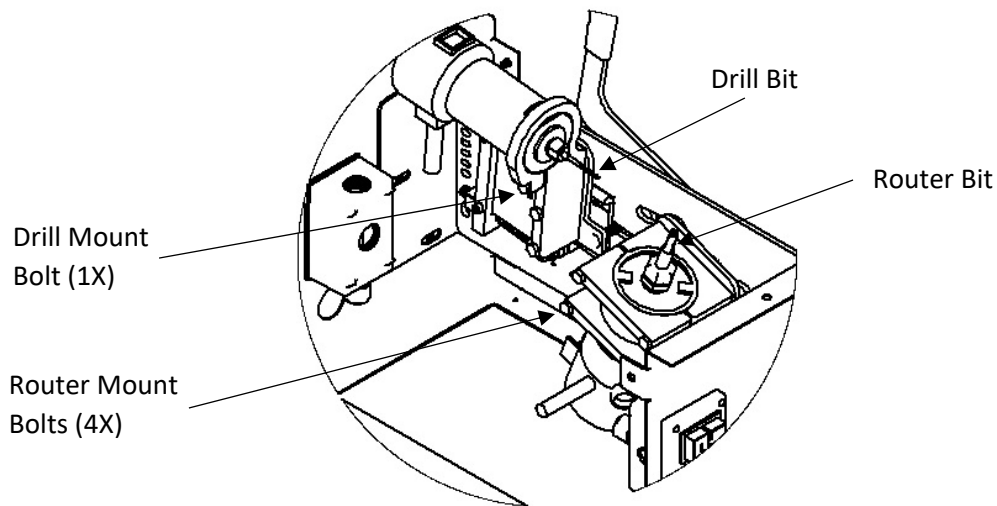

Figure 24: Motor Removal
3. Loosen the bolts on the motor mount(s). Router, (Figure 24), or drill motor, (Figure 24).